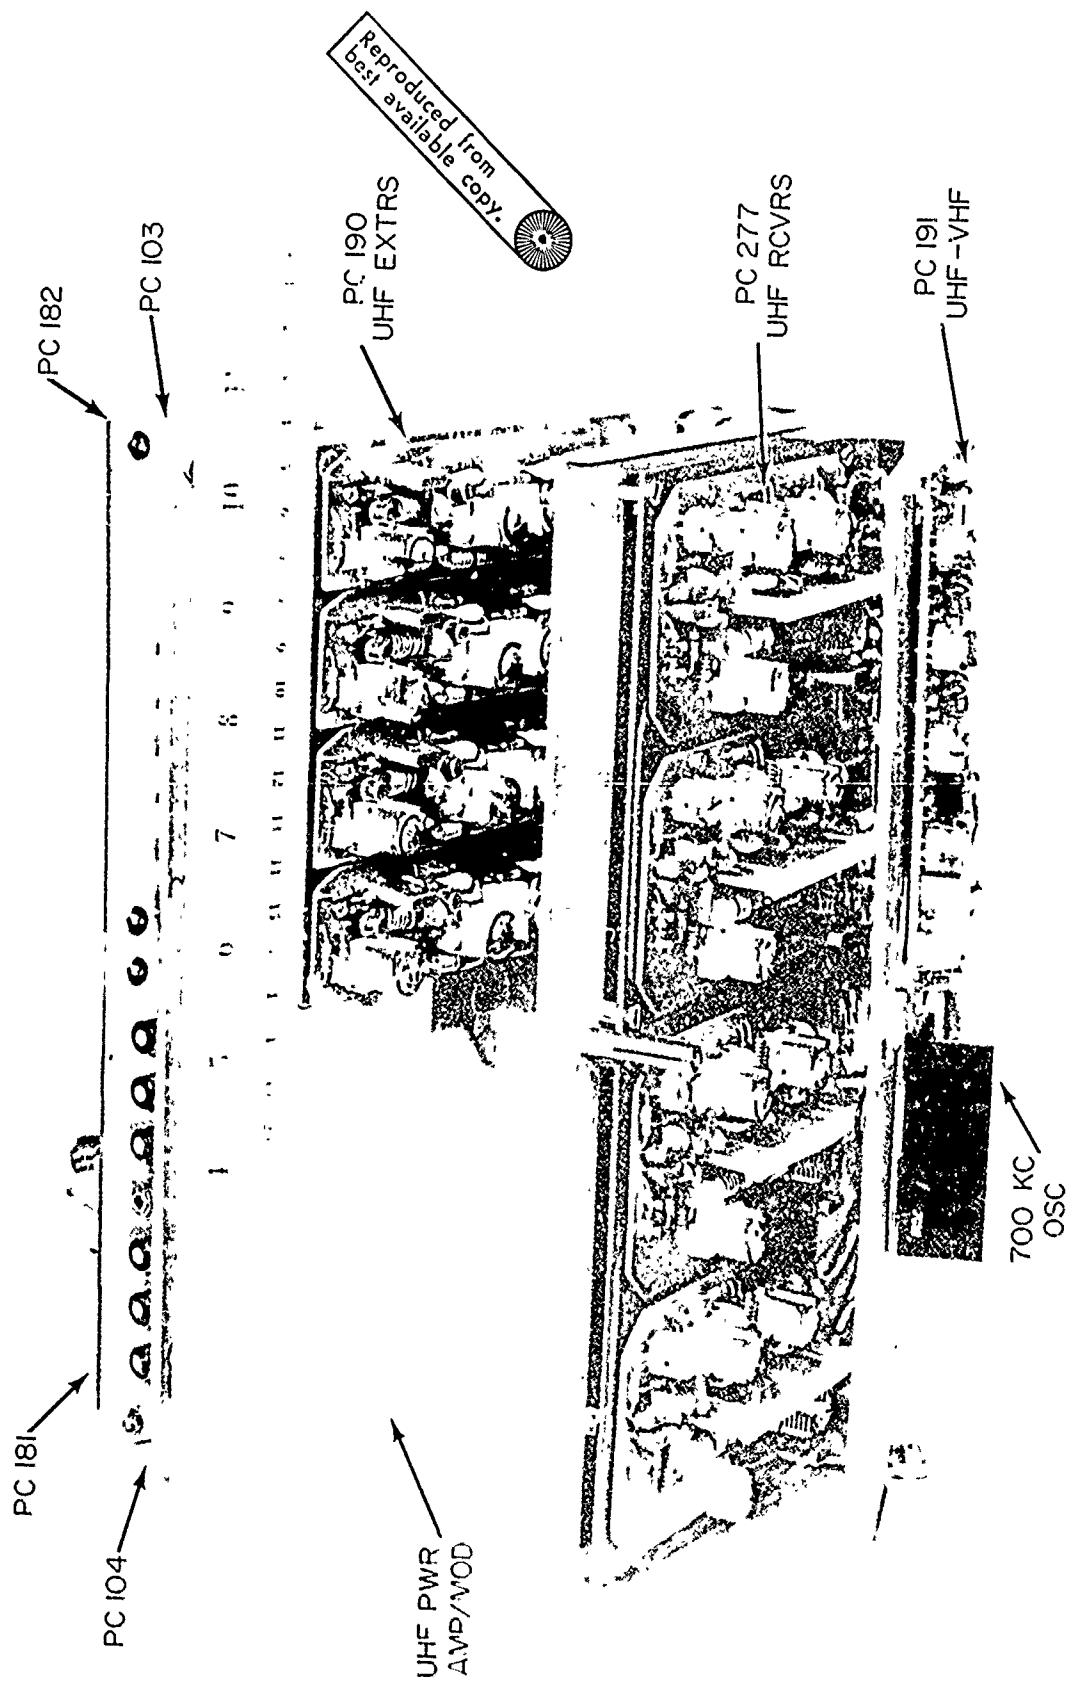

Fig. 4-3. Buoy electronics: UHF side
b. UHF TRANSMITTER - Four PC-190 circuit boards make up the four excitors for the UHF transmitter (Fig. 4-3). Crystal Y1 on PC-190 is the fundamental frequency crystal. The desired operating frequency  $F_o$  is three times the crystal frequency  $F_x$ , as shown by
c. UHF RECEIVER - Crystal Y1 of PC-277 (Fig. 4-3) is the first heterodyne crystal for the UHF receiver, and its frequency determines the operating frequency of the UHF channel. Each PC-277 forms the front end of a channel.